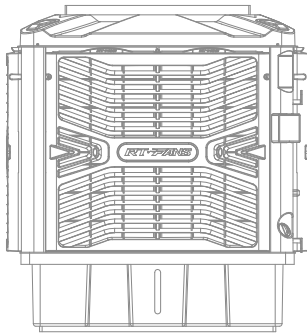

图4.1 / fig4.1
- 首先打开包装，检查外观（如图4.1）。请确定产品是否完好无损，如在运输途中发生了损坏，请及时联系瑞泰风当地经销商。
- First, open the package and check the appearance. (fig4.1) Please make sure that the product is intact. If it is damaged in transit, please contact the local distributor in time.